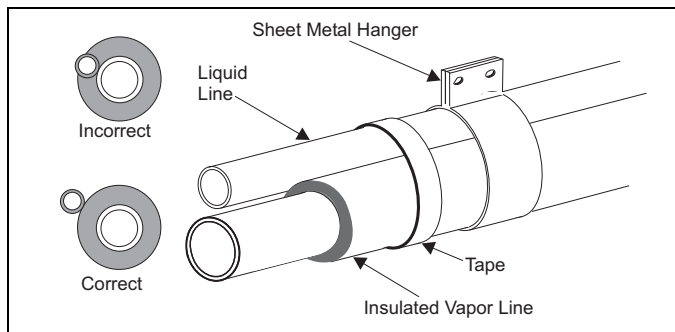

FIGURE 4: Insulation of Vapor Line
- d. Liquid lines should not be in bare contact with suction line. See Figure 4.